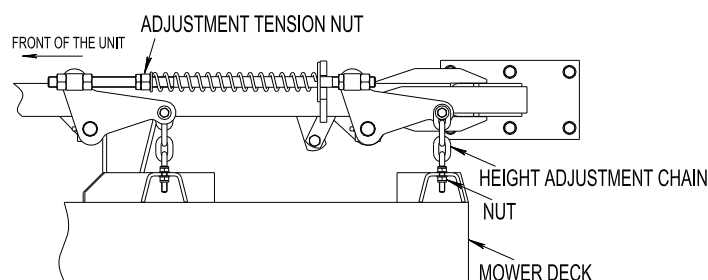

FIG 8
- Raise the deck to the highest lock position and take as much force as possible off of the two large deck lift springs by loosening the nuts at the front of each spring. See Figure 8